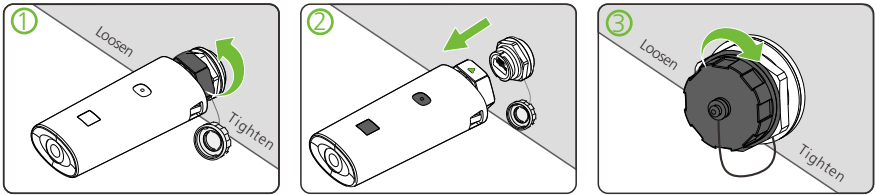

Fig 6.9B
- 3> As shown in Figure 6.9B, make sure that the Δ is facing upwards, insert the monitoring module into the USB interface, and tighten the lock.